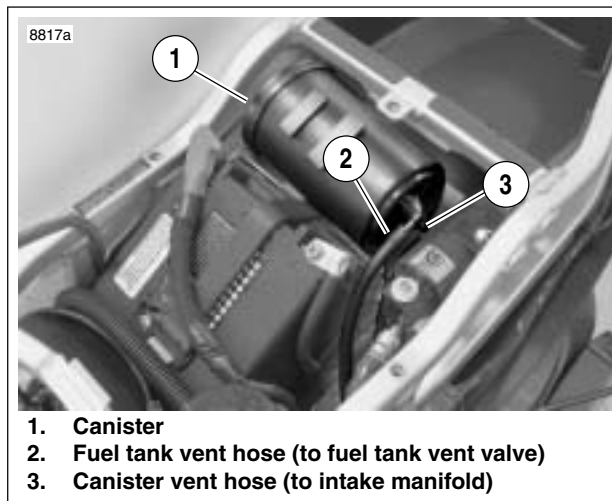
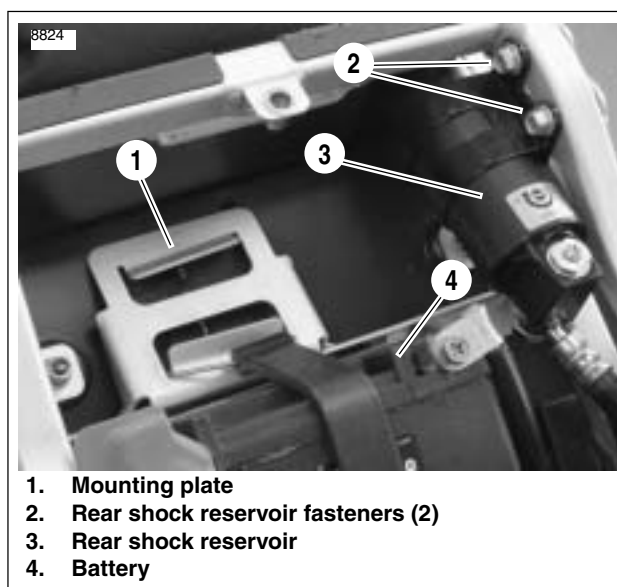

Figure 4-124. Carbon Canister Installation.
Figure 4-126. Carbon Canister Mounting
2. See Figure 4-124. The canister assembly mounts behind the battery in the tail section.
3. Label and disconnect the fuel tank vent hose (2) and canister vent hose (3) from the canister.
4. See Figure 4-126. Remove rear shock absorber reservoir fasteners (2). Move reservoir assembly away from canister.
5. Slide canister towards left side of vehicle to disengage from mounting plate (1).
2. See Figure 4-124. Attach fuel tank vent hose (2) to canister if disconnected.
1. See Figure 4-126. Slide canister into position on canister mounting plate (1).
2. Place rear shock reservoir assembly (3) into position.
3. See Figure 4-126. Install reservoir mounting fasteners (2). Tighten fasteners to 120-144 **in-lbs** (13.6-16.3 Nm).
4. See Figure 4-124. Connect two hoses to the canister. Make sure to push hoses all the way on to carbon canister fittings.